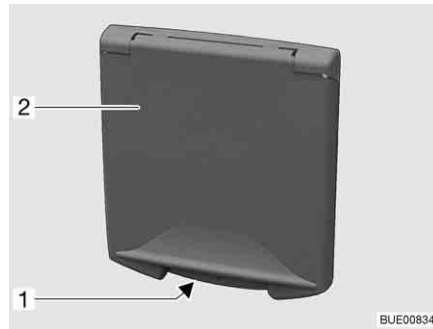

Fig. 49 Push-button lock service flap
- Insert the key into locking cylinder of the lockable push-button lock (Fig. 49,1) and turn a quarter turn. The push-button lock is unlatched.
- Insert the key into locking cylinder of the lockable push-button lock (Fig. 49,1) and turn a quarter turn. The push-button lock is locked.